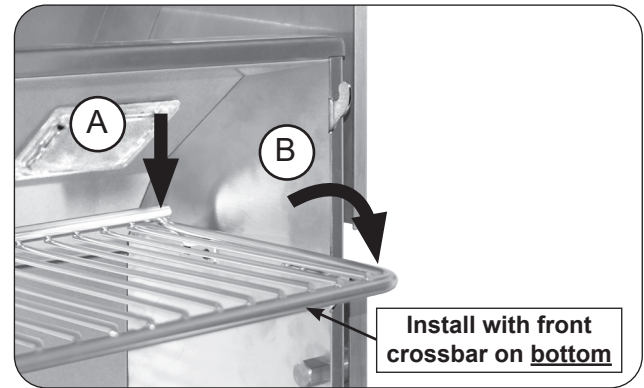

Fig. 30-2 Place warming rack for use
2. With the warming rack oriented as shown, carefully rest the rear of the rack onto the rear support plates (Fig. 30-2, A), then rest the warming rack arms onto the two lower hooks for use (Fig. 30-2, B). Repeat for the other warming rack.